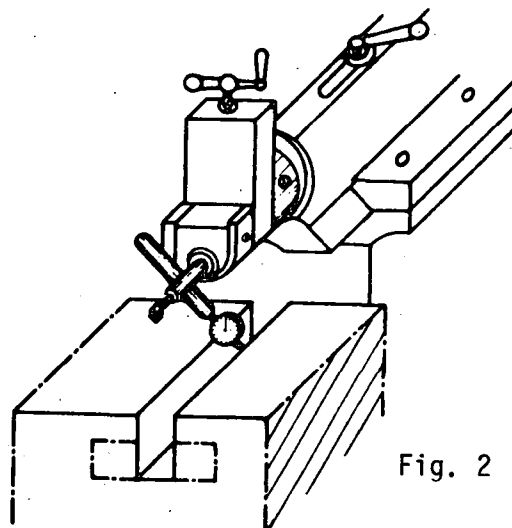

Fig. 2
- 3) Move the table, lower the clapper until the plunger of the indicator touches one of the lateral surfaces of the slot. Allow the indicator hand to turn once or twice (Fig. 2).